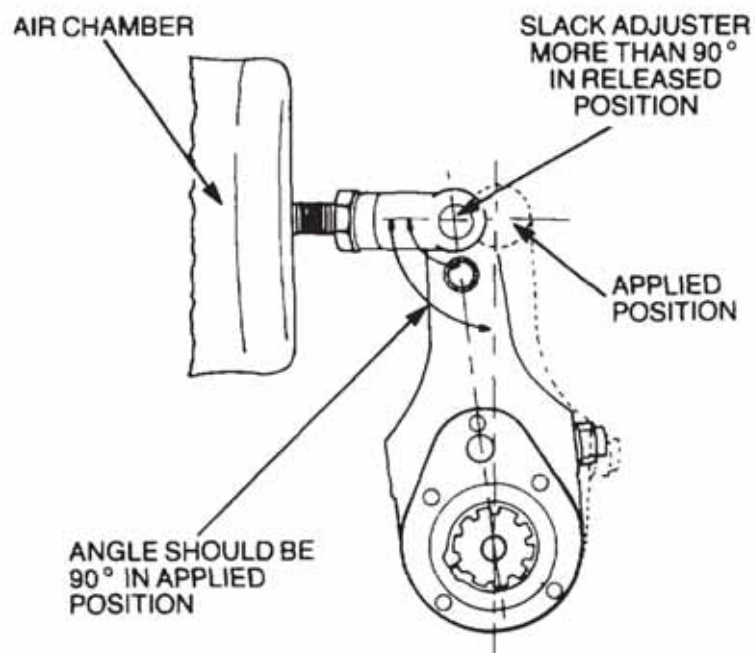

**Figure 2 Slack Adjuster Worm Shaft Lock**
- d. Disengage the worm shaft lock on the slack adjuster (Figure 2) by depressing the spring loaded sleeve with a wrench.